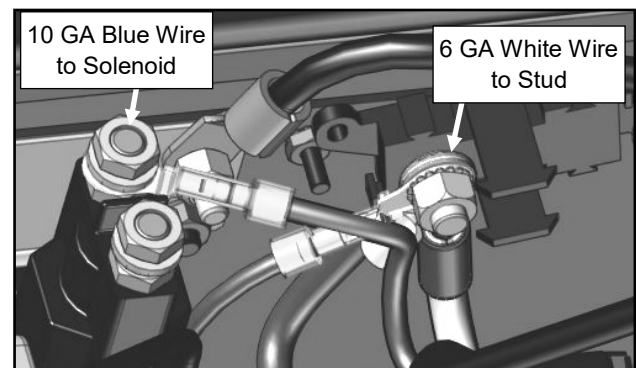

Fig. 3.9 (Harness Connection)
- 3.9 Connect the blue 10 GA wire to the terminal on top of solenoid closest to the front air conditioner wall. Figure 3.9.
- 3.10 Connect the white 6 GA wire to the junction block installed in step 3.2 and tighten. Ref. Figure 3.9.